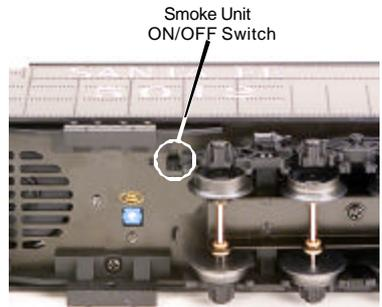

Figure 4. Smoke Unit ON/OFF Switch
3. If you choose not to prime the unit with fluid, turn the smoke unit switch located under the tender to the OFF position (see Fig. 4 on pg. 10). **Running the engine without a primed smoke unit may cause damage.** See the “ProtoSmoke Unit Operation” section of this book for more information on smoke unit maintenance.
If you choose not to add the fluid (or have already added the fluid but choose to run smoke-free), turn off the smoke unit switch located under the tender (see Fig. 4). **Failure either to add fluid to the unit or to turn it off may damage the smoke unit heating element and/or wick material.**